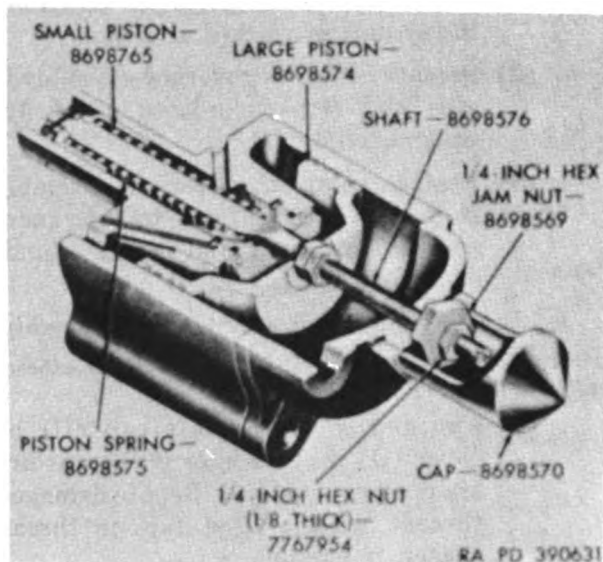

Figure 127. Fuel injector oil booster pump assembly—cutaway view.
- (1) Position small piston (C) on large diameter end of shaft (E) and secure with $\frac{1}{4}$ -inch castellated hex nut (A). Secure nut with $\frac{1}{16}$ x $\frac{1}{2}$ cotter pin (B).
- (2) Slide piston spring (D) over other end of shaft and into bore of small piston as shown in figure 127.
- (3) Position two new $\frac{3}{8}$ -inch id "O" ring packings (K) in bore of shaft adapter (L) and a new $\frac{5}{16}$ -inch id "O" ring packing (H) in groove in outer diameter of adapter.
- (4) Install adapter and 1.0900-inch tab washer (J) in housing (F) as shown in figure 127. Tighten adapter securely and bend up tabs of washer to secure adapter.